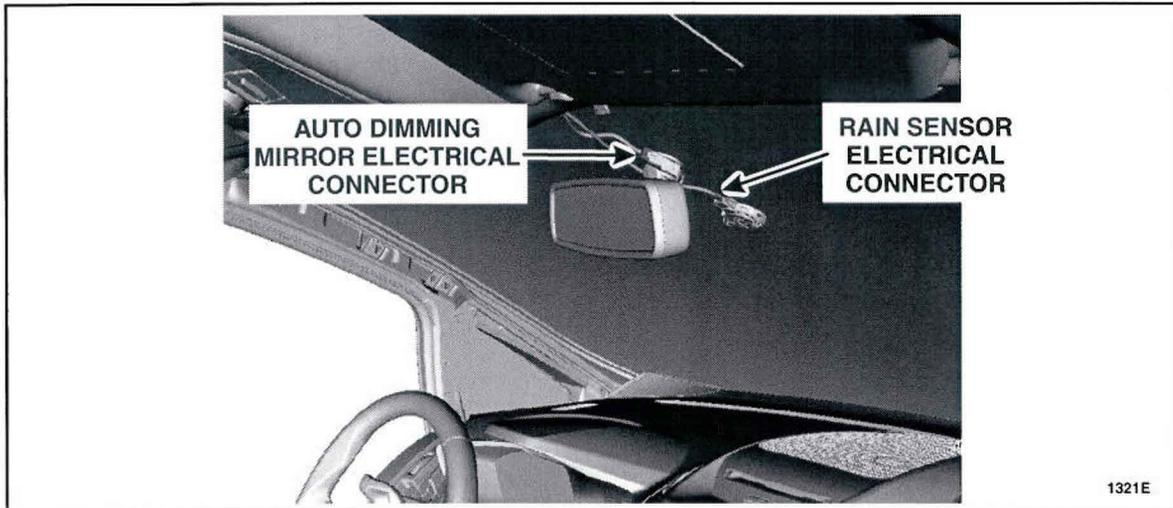

FIGURE 8
See Figure 8.
26. If equipped, connect the rain sensor and/or auto dimming mirror electrical connectors. See Figure 8.